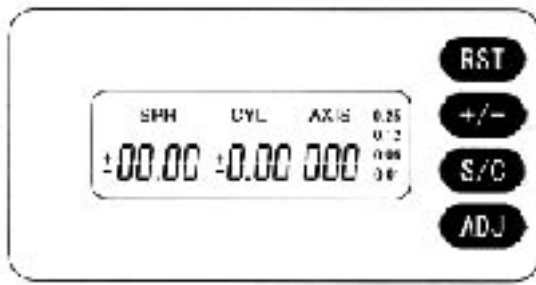

Fig. 5
3.3 Liquid Crystal Display Screen (Fig 5)